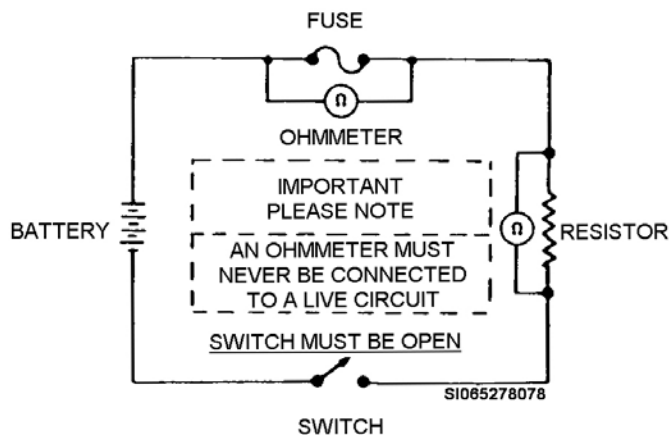

Figure 1-40. Method of connecting an ohmmeter in a circuit.
**NOTE:** Keep your hands on the insulated portion of the meter leads. Body resistance can distort your ohmmeter reading if you touch the ends of the leads with your fingers. Figure 1-40 shows how to measure resistance properly.